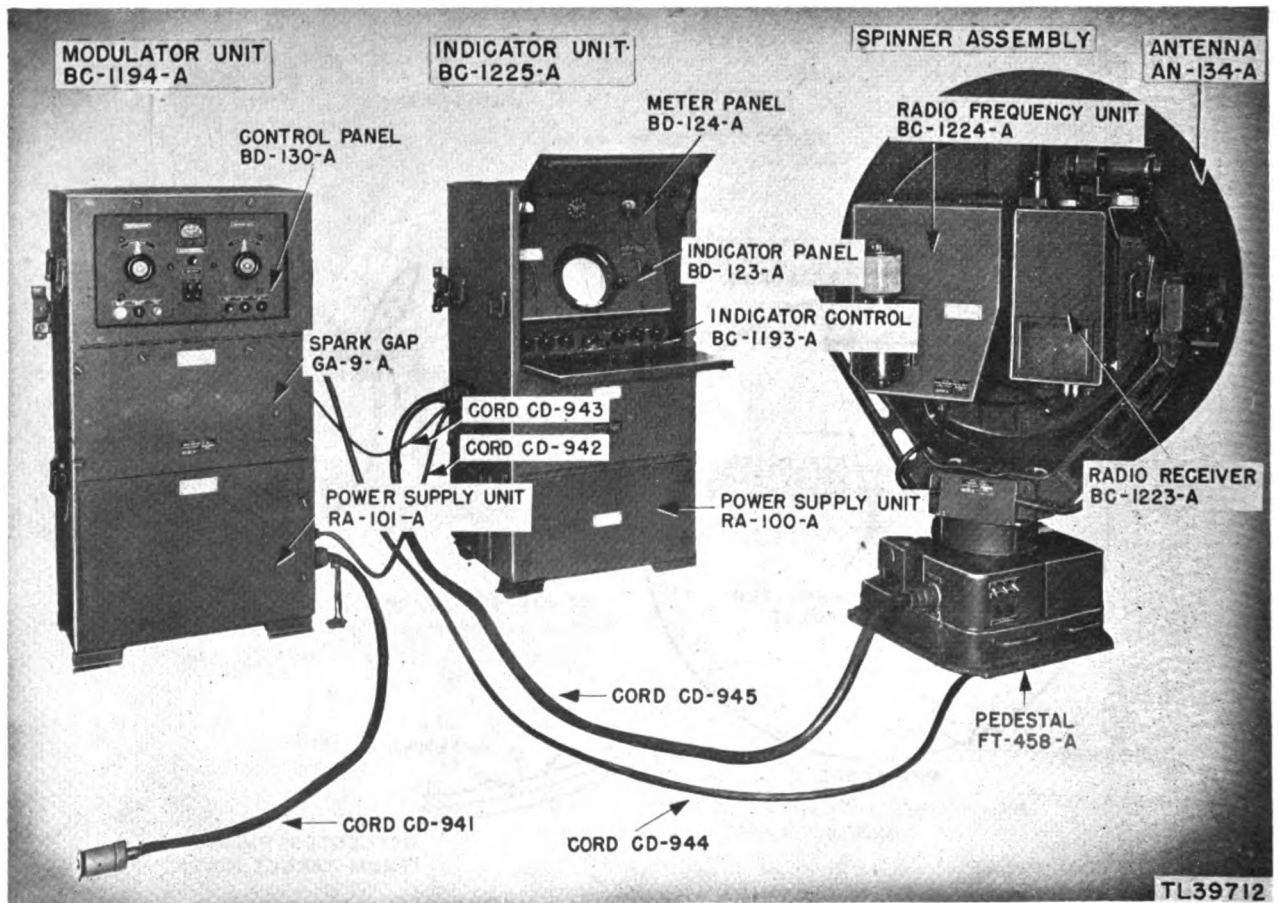

Figure 6. Radio Set SCR-682-A, general view of components.
- (1) To search for aircraft or surface vessels within the maximum range of the set.
- (2) To supply continuous data on the range (distance) and azimuth (direction) of all targets detected.
c. A general view of the components of Radio Set SCR-682-A is shown in figure 6. The set is composed of three main units: Modulator Unit BC-1194-A, Indicator Unit BC-1225-A, and the spinner assembly, each of which contains several components.
d. In the theory and trouble shooting chapters of this manual, the various circuits of the set are not divided according to the components shown in figure 6, but are divided into functional systems as discussed in paragraph 4.